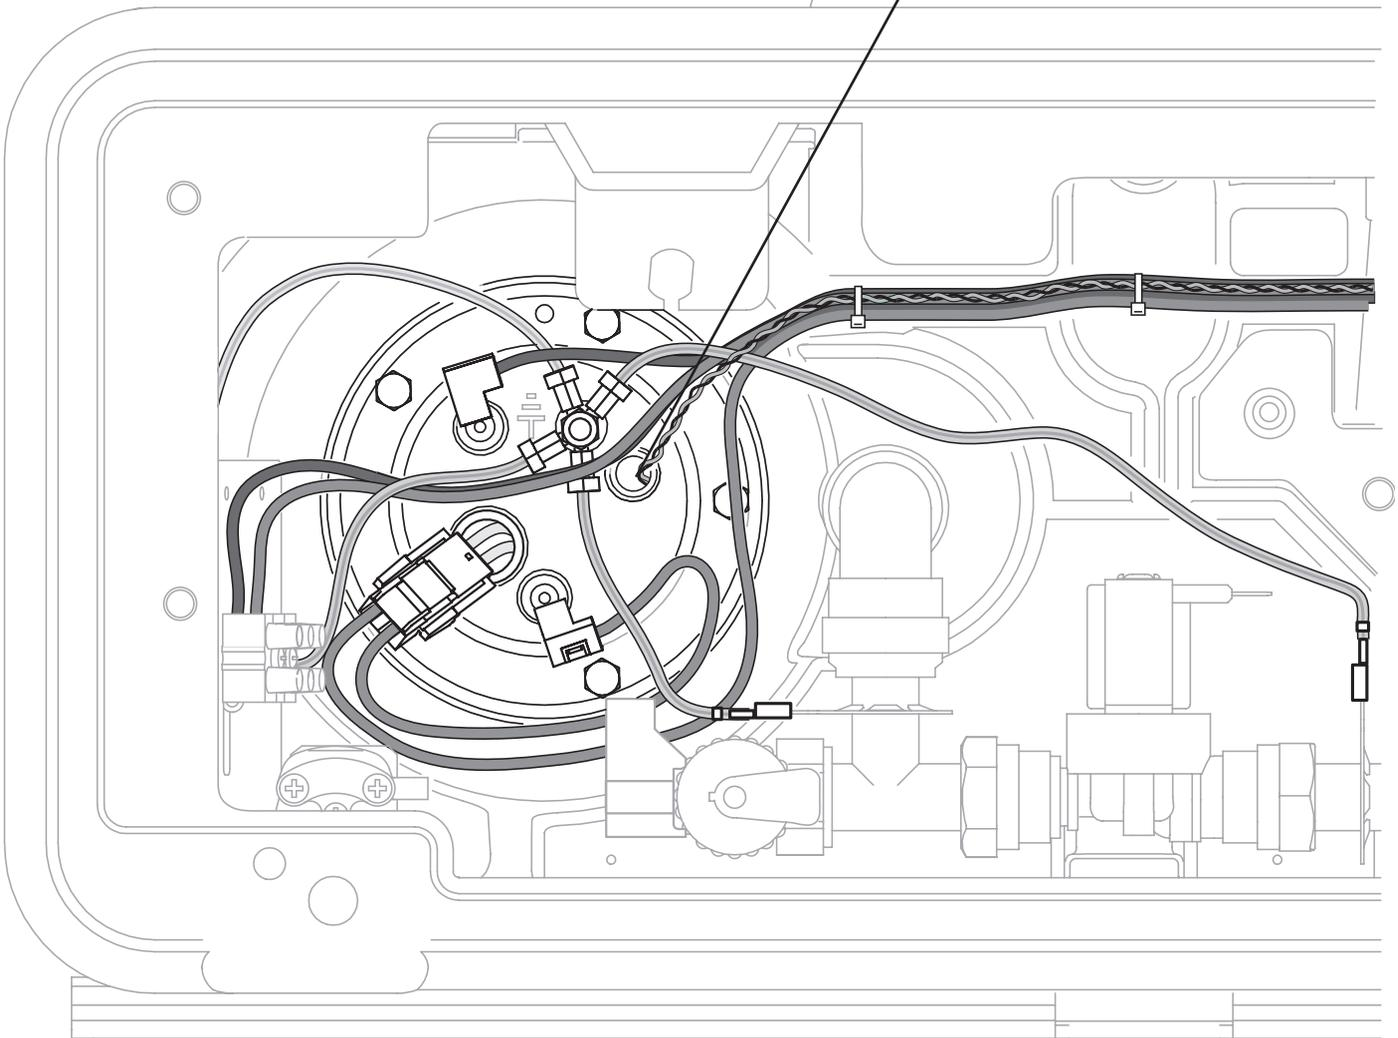

Figure 26: Base view
- ▶ Remove the thermistor out of its stat tube, smallest, see figures 26 and 27.